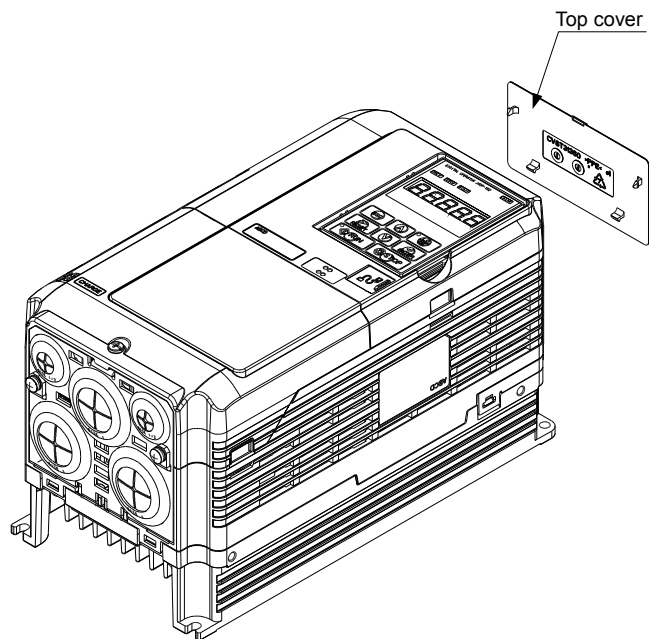

Figure 2: Step 1
1. Remove top cover (Figure 2)